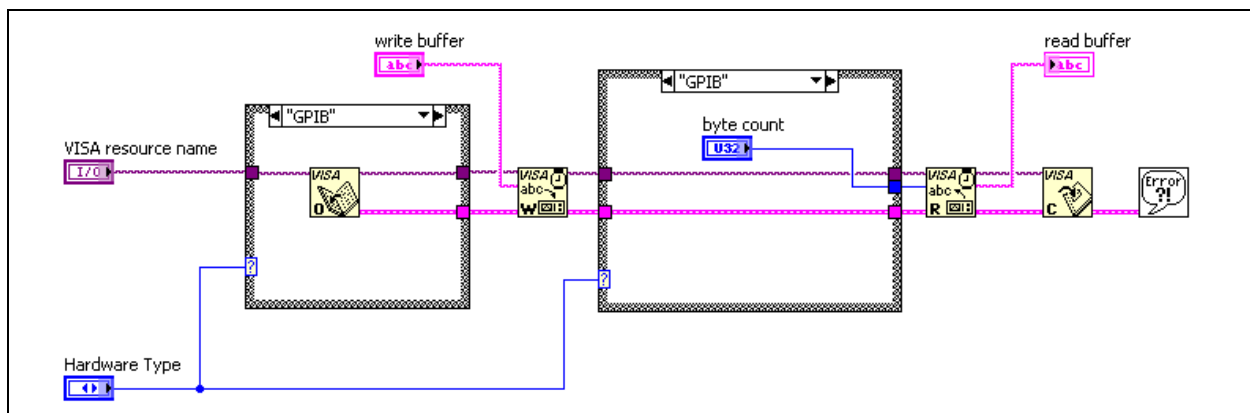

Figure 9-16. GPIB portion of the VISA Write & Read VI Block Diagram
2. Open the block diagram of the VI and examine the code. The GPIB portion is shown in Figure 9-16.